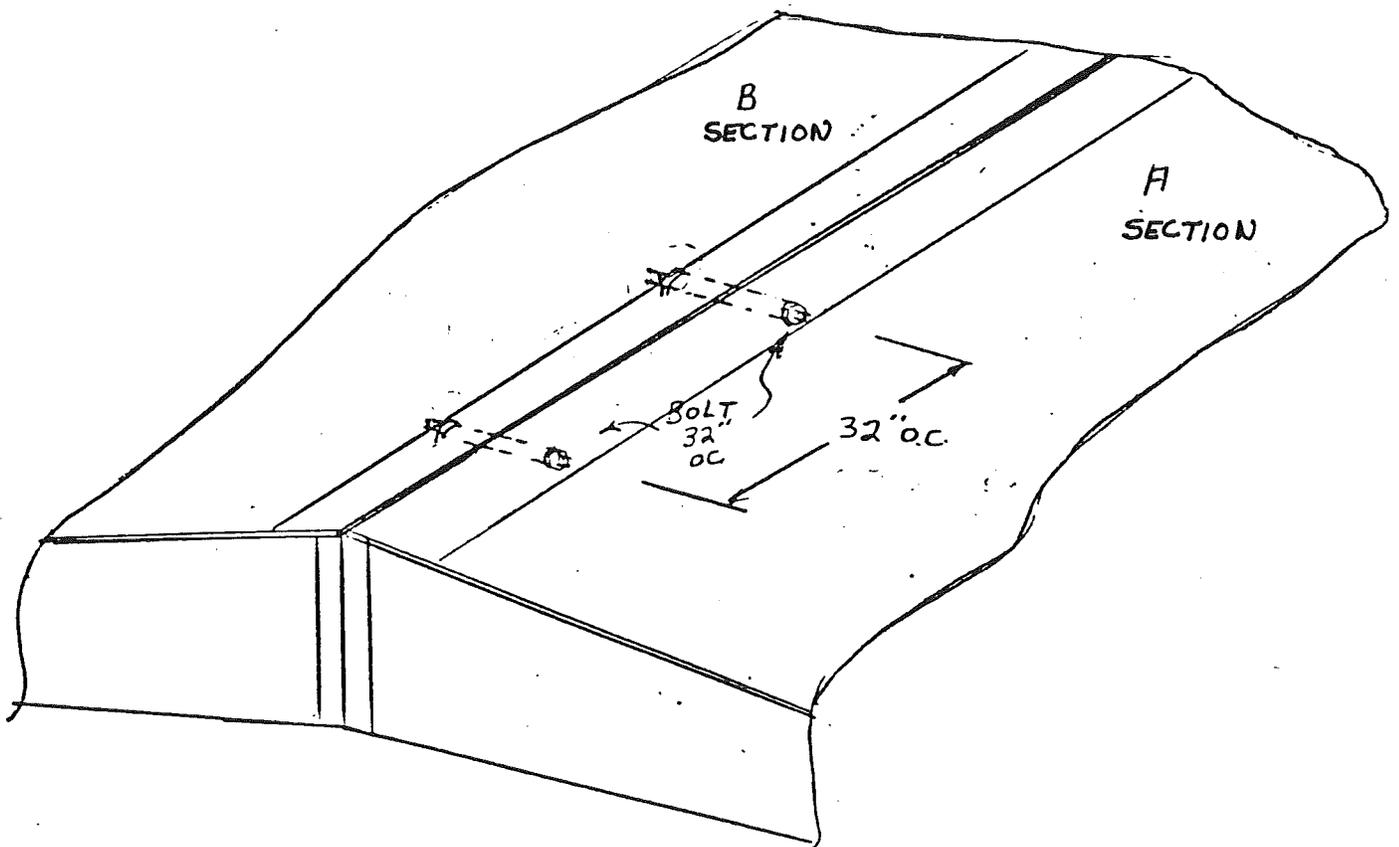

FIGURE 3- JOINING ROOF
3. Place jacks under outside I-beam of "B" half and raise enough to bring the roof beams together. Adjust the jacks to provide a tight and flush ceiling joint. If matching halves of ceiling are not flush, use a jack and post with a pad to raise low side until flush prior to fastening roof beam. Place 1/2" X 5" bolts with washers in predrilled holes at 32" spacing and tighten until snug (Figure 3) or install